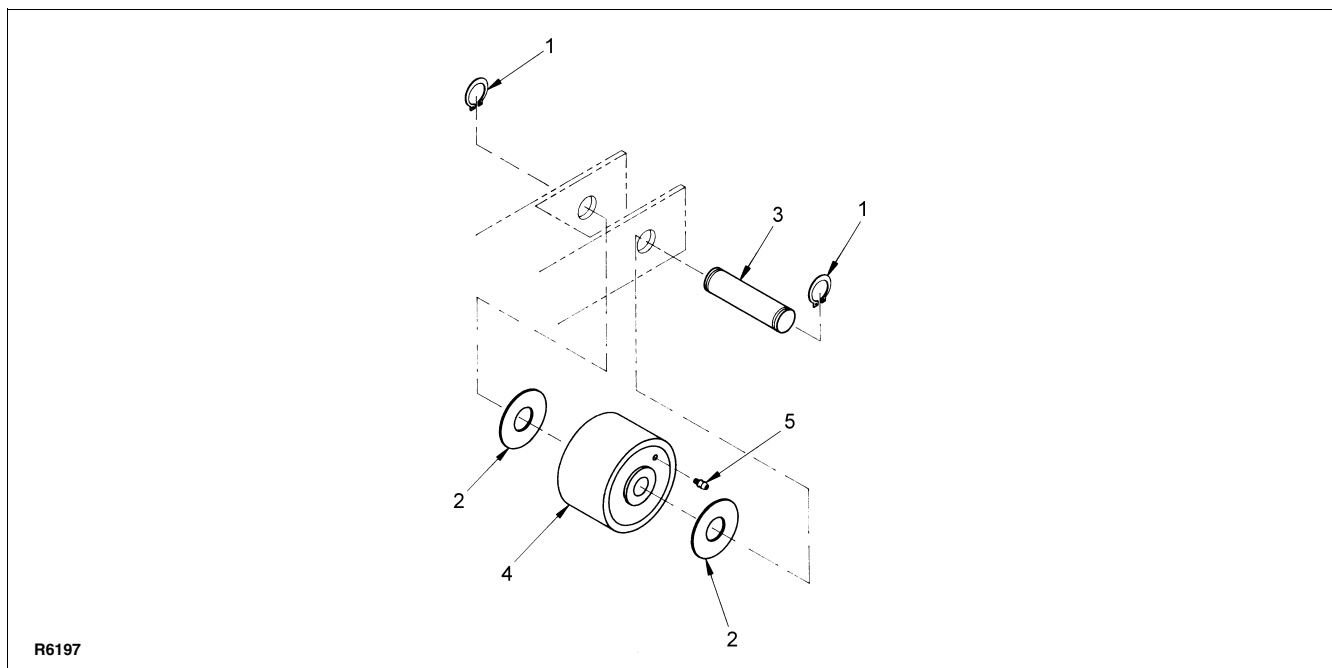
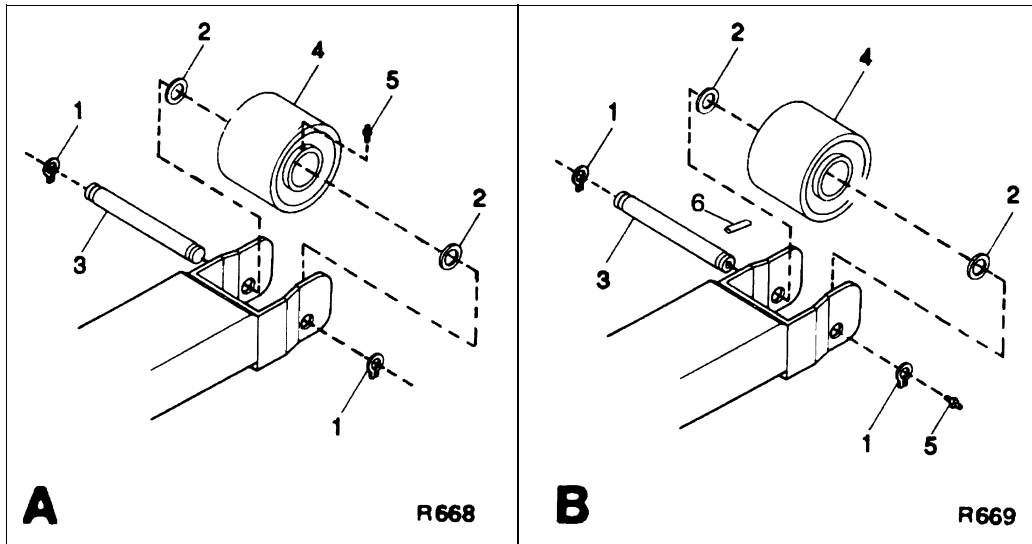

Figure 8-1 Load Wheels
Figure 8-2 Load Wheels
3. Remove one of the two snap rings (1, Figure 8-1 or Figure 8-2) from the load wheel axle (3).
4. Remove the axle. The load wheel and spacers (2) will drop free.